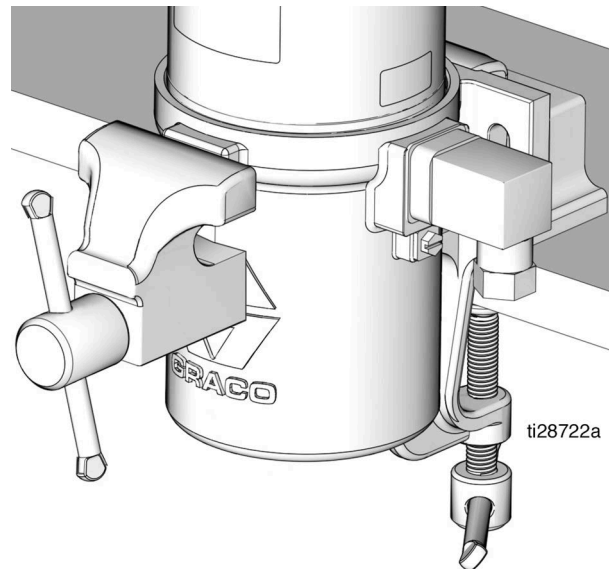

FIG. 13
9. Clamp the air motor cylinder (3) in a vise as shown in FIG. 13. Use a soft-jaw vise or place a rag in the vise jaws to protect the surface of the pump base.